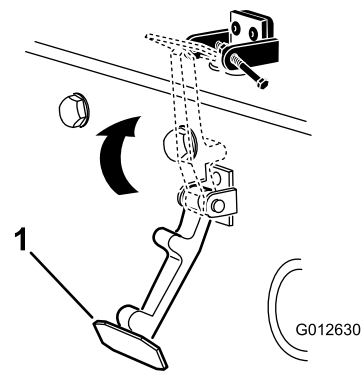

**Figure 16**
**Note:** The lock bracket must be against the hood (Figure 16). Do not remove the bolt and nut from the lock-bracket arm.
5. Rivet the brackets and the washers to the hood (Figure 16).